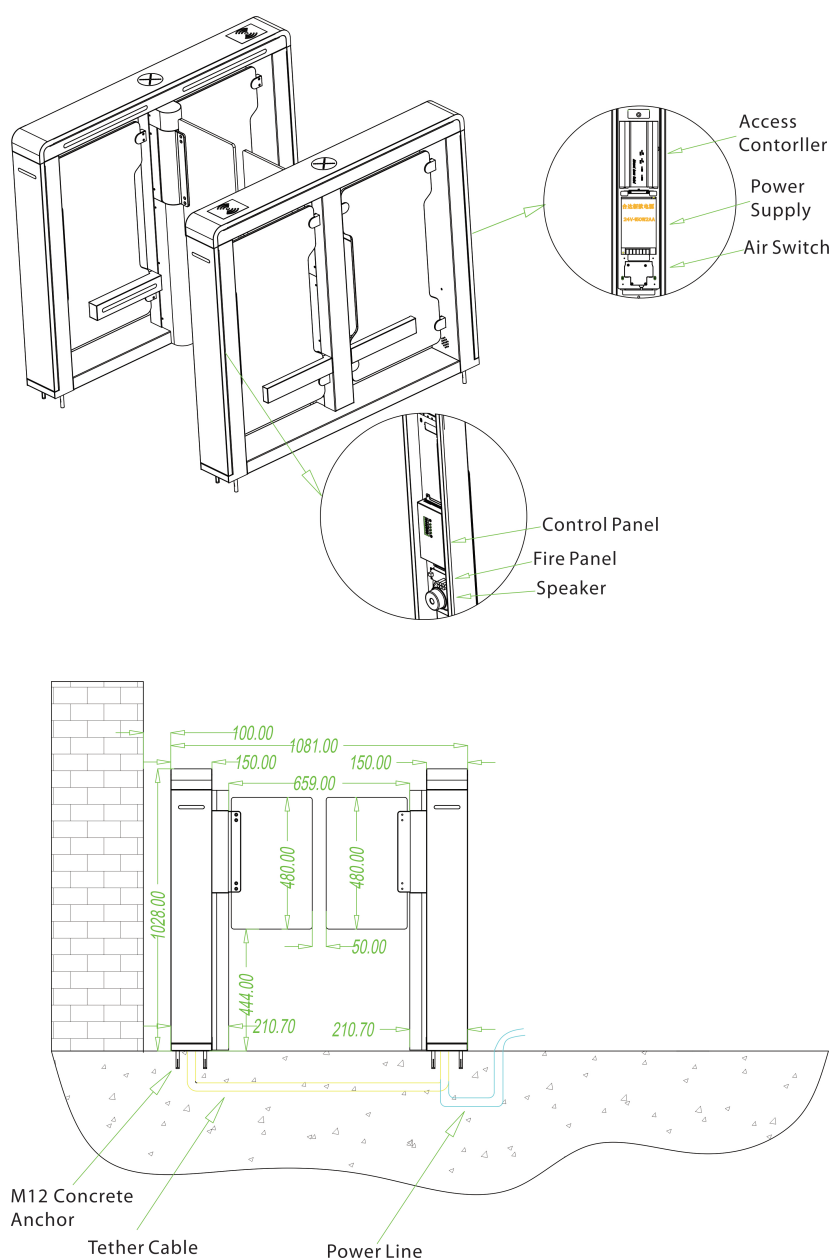

Figure 2-2
SBTL7000 series installation holes and cabling positions is shown in Figure 2-2:
- ◆ Mark the screw hole at the centre of the stand, and the edge of the chassis base on the ground according to the sizes as shown on the Figure 2-2.